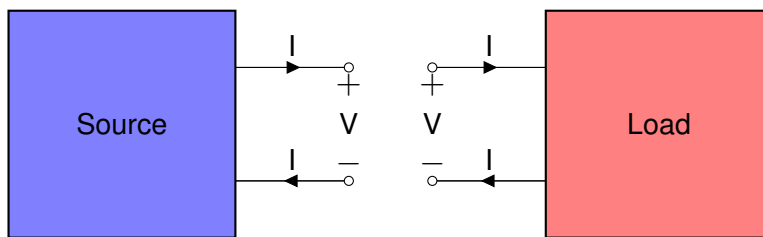

Figure 19.1: Source and load one-port networks. Note, the direction of current.
An electrical one-port network can be described by current voltage (IV) characteristic curves. There are two variants depending on whether the network acts as a source or load, see Figure 19.1, defined by the current direction.